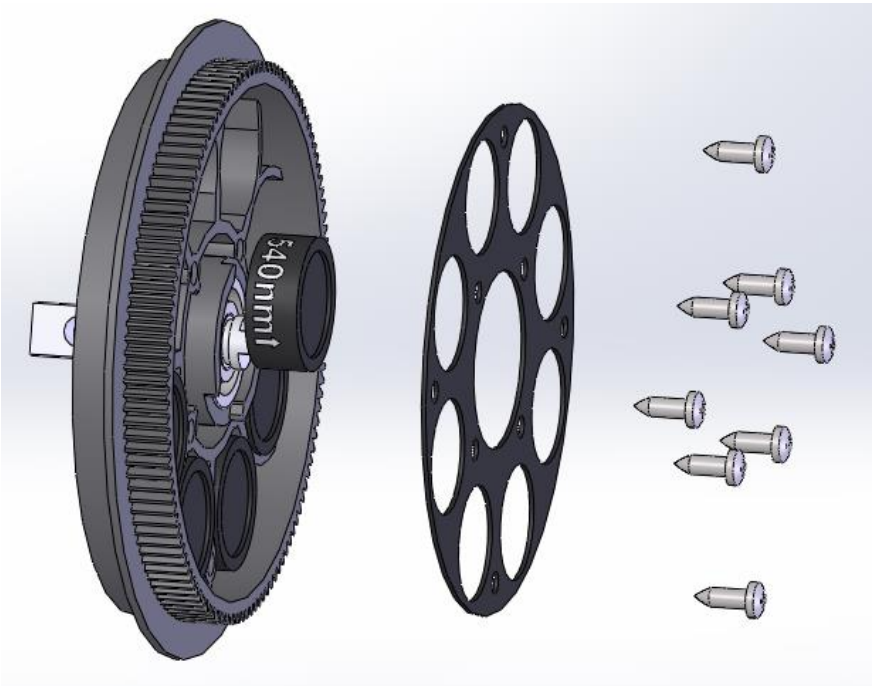

Fig 57
- Remove the fixing plate by removing the screws, then place any new filters in open positions. Arrows on filters should be same as light incident direction. See fig 57. Replace the fixing plate and screws.